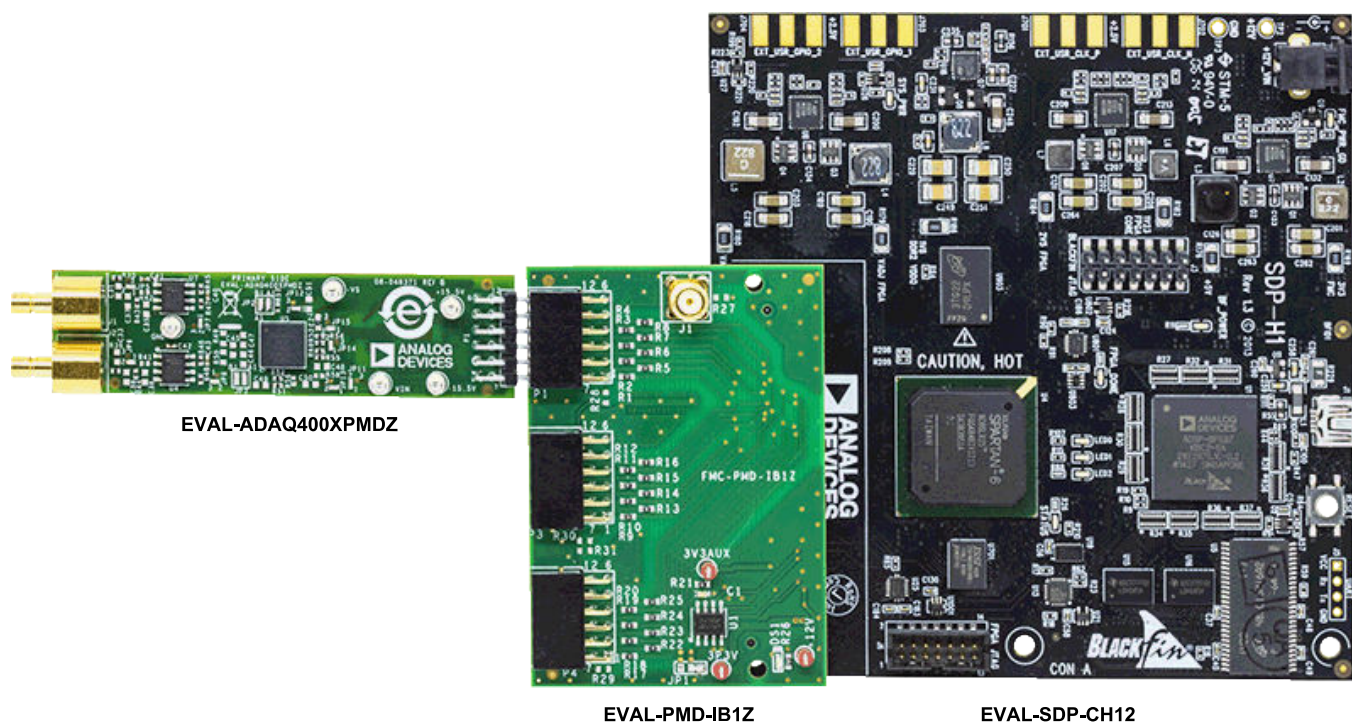

Figure 1.
The ADAQ4001 and ADAQ4003 μ Module® data acquisition system evaluation kit (EVAL-ADAQ4001FMCZ or EVAL-ADAQ4003FMCZ) contains the EVAL-ADAQ4001PMDZ or EVAL-ADAQ4003PMDZ peripheral module (Pmod) board and the EVAL-PMD-IB1Z Pmod to field programmable grid array (FPGA) mezzanine card (FMC) interposer board that interfaces with the system demonstration controller board (EVAL-SDP-CH1Z) via a 160-pin FMC connector, as shown in Figure 1.
demonstration platform (SDP-H1) to capture the data via a graphic user interface (GUI) (see Figure 1). The SDP-H1 requires power from a 12 V wall adapter. The SDP-H1 has a Xilinx® Spartan®-6 and an ADSP-BF527 processor with connectivity to the PC through a USB 2.0 high speed port.
1. Connect the EVAL-ADAQ4001PMDZ or EVAL-ADAQ4003PMDZ to the EVAL-PMD-IB1Z interposer board at the P1 header (see Figure 1).